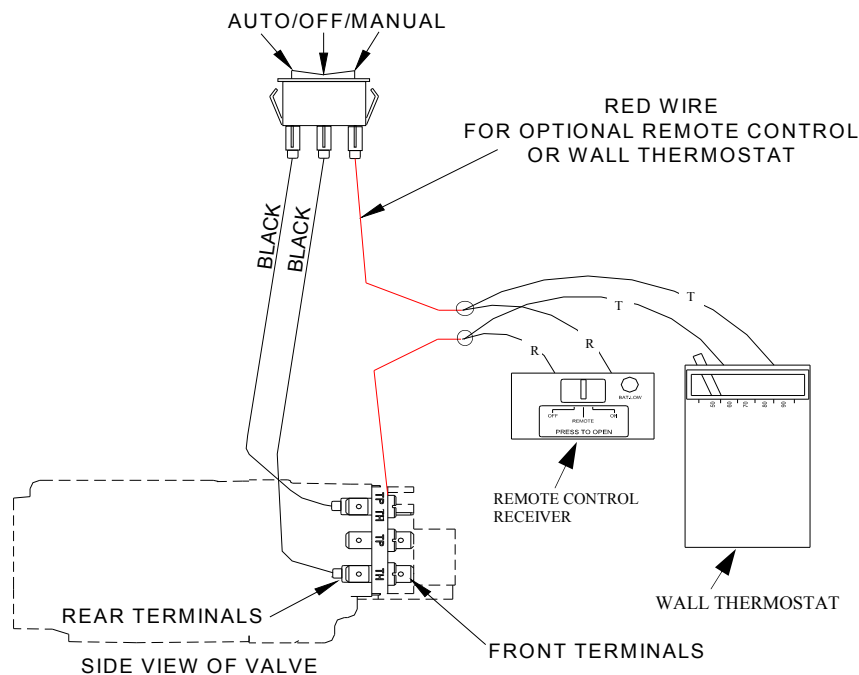

Figure 36-Installing Remote Receiver/Wall Thermostat
3. Next connect one of the wires from the remote receiver and/or the wall thermostat to one end of the cut red wire and secure them together with a wire nut (not provided) (see Figure 36).
4. Take the remaining end of the cut red wire and connect the remaining wire from the remote receiver and/or the wall thermostat and secure them together with a wire nut (not provided) (see Figure 36).